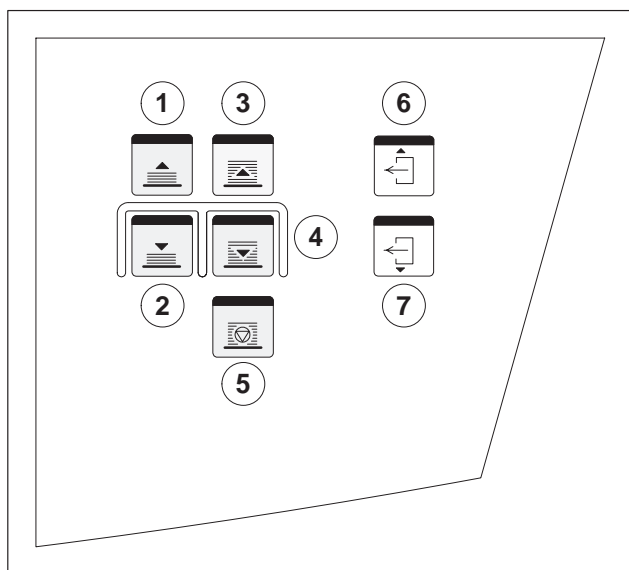
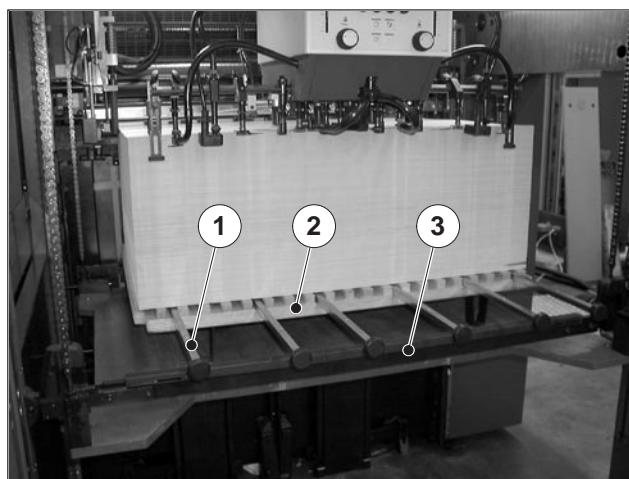

Fig. 4 Pile control control panel
Fig. 5 Inserting the supporting members
1. Use the Heidelberg non-stop pallets (Fig. 5/2) with recesses for the members.
2. Lower the auxiliary pile with the *Auxiliary pile down* button (Fig. 4/2) until the retainer for the non-stop bar on D.S. and O.S. can easily be reached.
3. Hook the non-stop bar (Fig. 5/3), with the guide rail upwards, to the retainer on D.S. and O.S. (Fig. 5/1). The non-stop bar must lock home on D.S. and O.S.
4. Press the *Auxiliary pile down* button (Fig. 4/2). The non-stop bar automatically goes down to the level of the pile support plate (Fig. 5), or to the lowest position - the lowest point of the white scale area (Fig. 5/?).
5. Push the supporting members (Fig. 5/1), with the chamfer upwards, fully home into the recess of the pallet.
6. Press the *Auxiliary pile up* button (Fig. 4/1) after you have inserted all supporting members. Move the auxiliary pile system under the supporting members.
7. Press the *Main pile down* button (Fig. 4/4). The pile support plate
12. Press the *Main pile up* button (Fig. 4/3).
15. Press the *Auxiliary pile up* button (Fig. 4/1) to move the non-stop bar to the topmost position. This completes the non-stop cycle.
1. Lower the auxiliary pile by approximately 2 cm (Fig. 4/2).
2. Press the *Main pile up* button (Fig. 4/3) until the supporting members are in contact with the main pile.